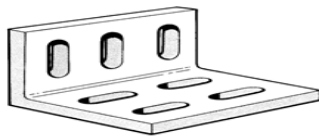

Figure 2.24. Angle plate
1. Set the scribe at the height you want, using the rule Figure 2.24.
The angle plate is made from a good-quality casting. It consists of two faces machined at  $90^\circ$  to each other (Figure 2.24). You can fix work to the plate using bolts, which can pass through the slots provided. You can also use the angle plate to support work when you are using the surface gauge for marking out.